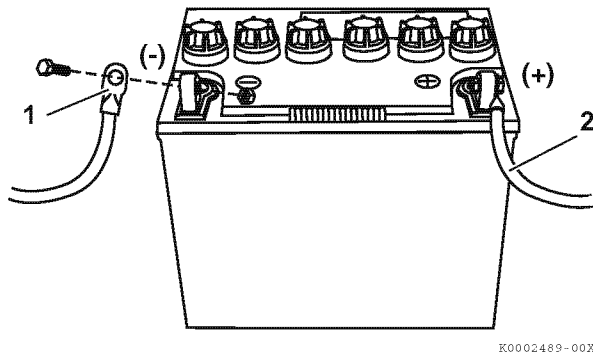

Figure 20
1. When disconnecting cables, loosen and disconnect negative (-) cable (1, **Figure 20**) first from battery.
2. Disconnect positive (+) cable (2, **Figure 20**) from battery last.